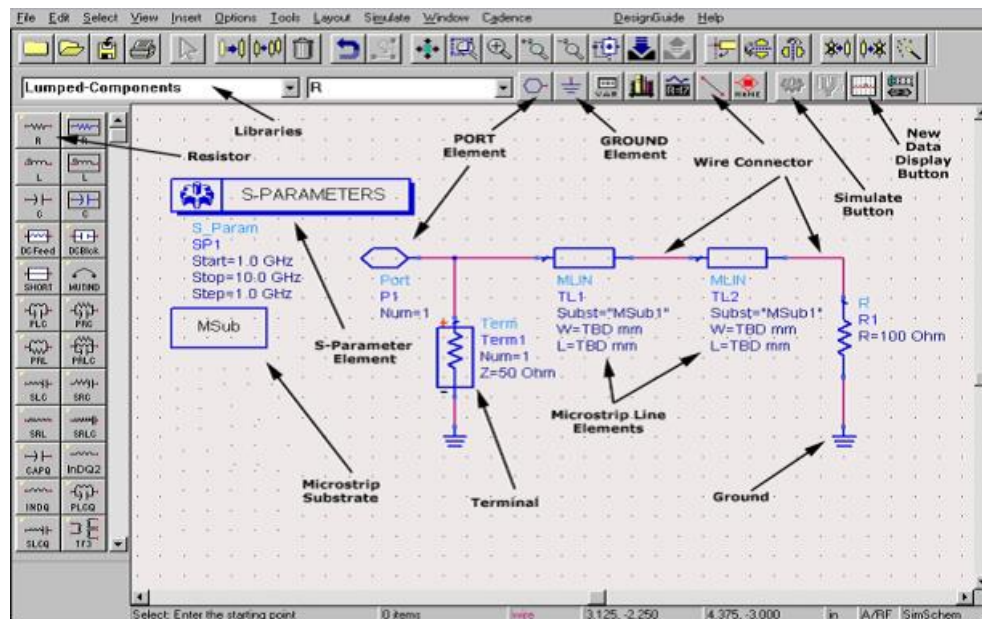

Figure 2 Schematic Window and Libraries / Elements.
3. In the schematic window (see Fig. 2), the element bar on the left side of the screen contains various lumped elements which may be deposited on the schematic. You can try different items if you want (try a resistor by pressing the resistor button, then drop the resistor on the schematic using the left mouse button. Hit escape to stop placing resistors). Double click on the resistor to change its value to 100 Ohm.
5. Change to the **Simulation-S-param** library, and then deposit a port, a terminal (**TERM**), a ground connection (see Fig. 2 to see where to get the port and ground), and an S-parameter simulation block (**SP**). Set the start, stop, and step frequencies of the S-parameter simulation as you think appropriate. Set ‘Term1’ as 50 ohms, which is telling the software that the reference impedance of the system will be 50 ohms.